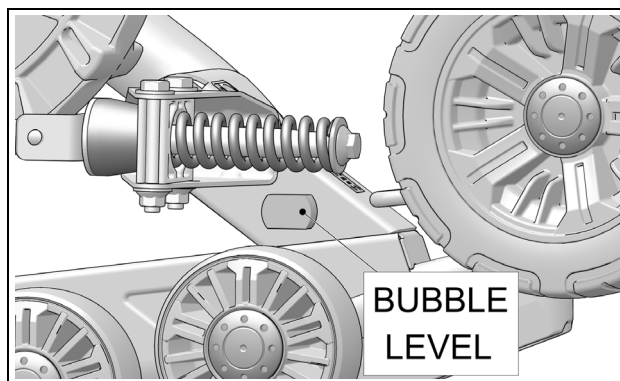

Figure 4
- Verify that the spring assembly bolt (3) is tightened to specification: 30 ft. lbs. (40 Nm).
- A Bubble Level is attached to the inside of the front frames. A perfectly centered bubble is needed to adjust the angle of attack correctly. See Figure 4.